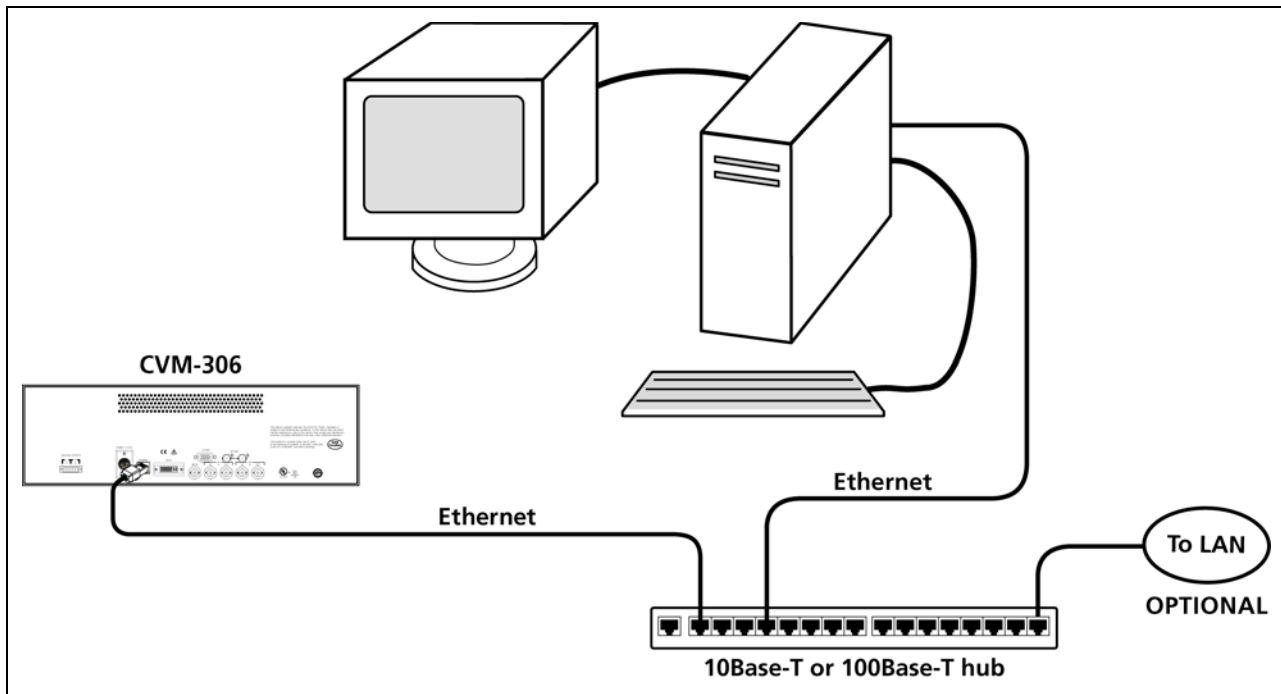

Figure 2-3 CVM-306 Network PC Connection
- For a network connection, connect the network hub to the back panel of the CVM-306 using a CAT5 network cable (not included). See Figure 2-3.